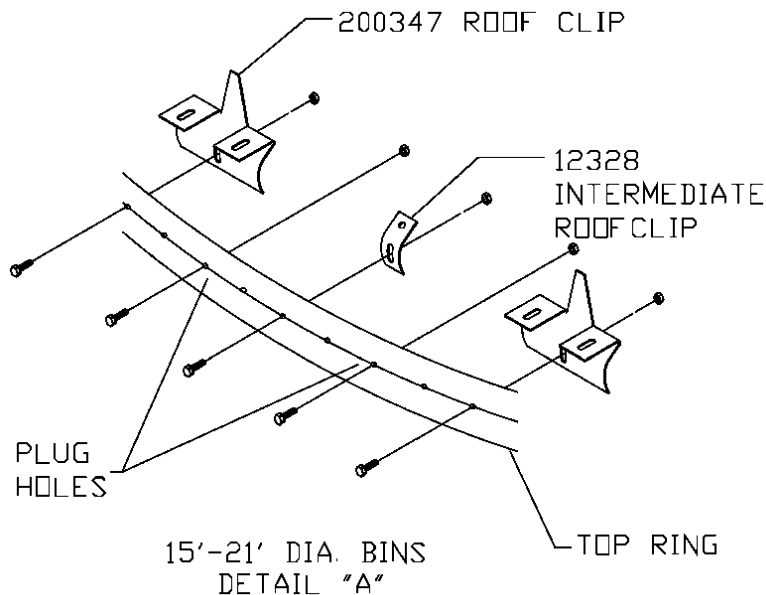

Figure 4-18: Roof Panel Clips
2. Attach each roof panel to the roof clips as show in Fig. 4-18.